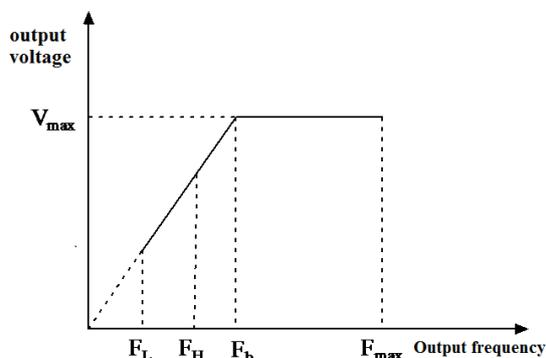

Figure 6-8: Limit frequency parameter schematic diagram
Lower limit frequency is the lowest frequency allowed by user setting. As F_L in figure 6-8:
4. Relationships of maximum output frequency, upper limit frequency, and lower limit frequency are shown in figure 6-8. The order shall be noted in setting.